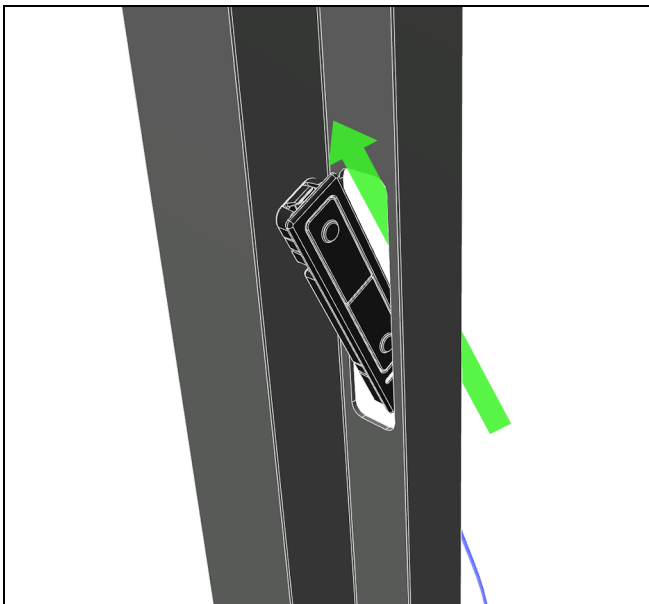
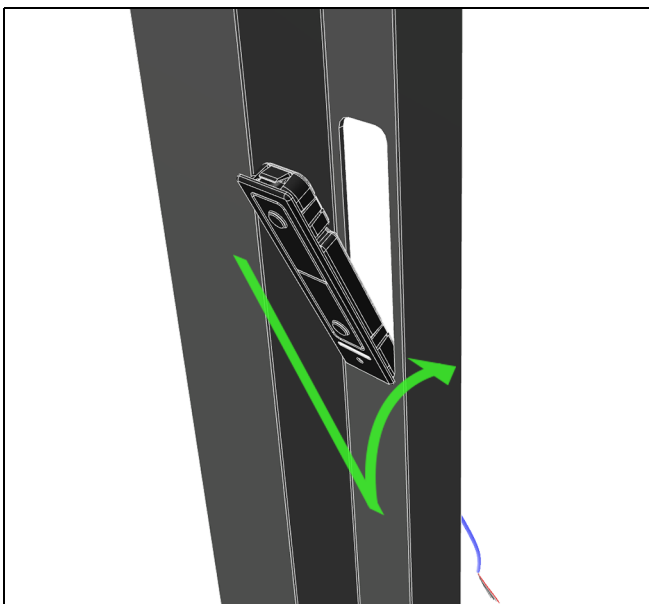

Figure 45
Figure 46
**2.A.** On automated jamb covers with the On Unit Control (OUC), pull the OUC through the back of the cover sideways, then turn, and snap into place. See Figure 45 and Figure 46.